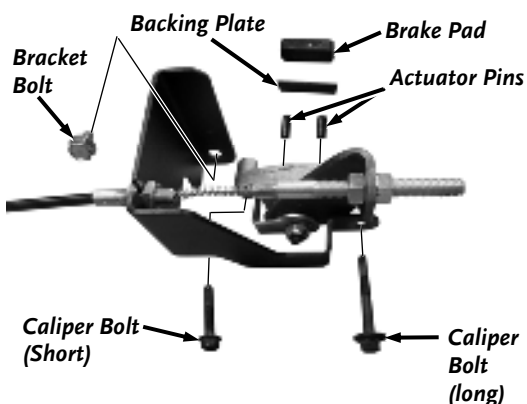

Figure 53
8. Lightly grease the Actuator Pins with Lithium Grease and insert the Pins into the Caliper (Figure 53).